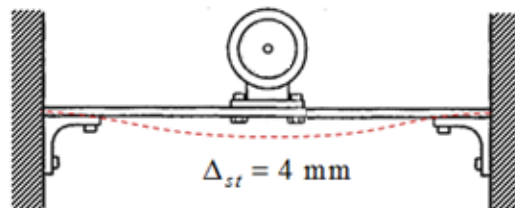

Figure 3
3. An electric motor of mass $M = 30$ kg is centrally mounted on a beam of negligible mass as shown in Figure 3. The static deflection (Δ_{st}) caused by the weight of the motor at the mid-section of the beam is 4 mm. If the motor is pushed downwards by 8 mm from the static equilibrium position, the amplitude of vertical oscillation of the motor is observed to dampen to 1 mm in 2 cycles.